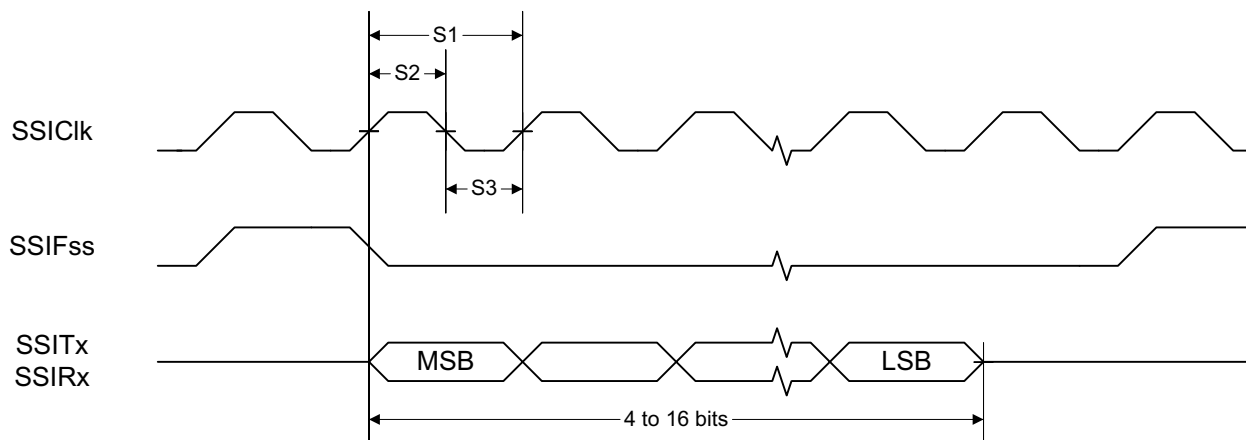
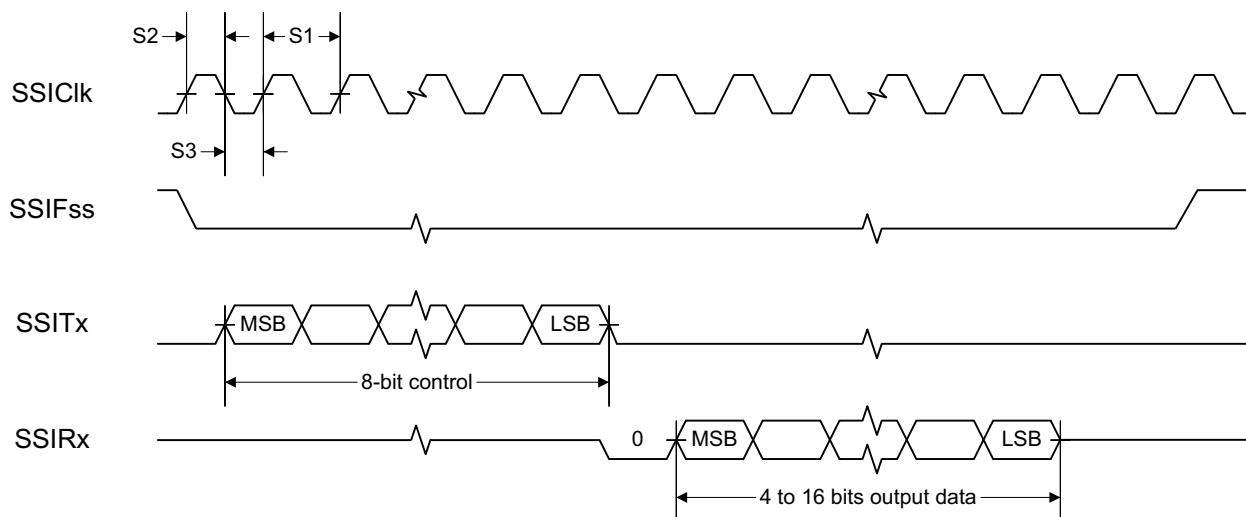
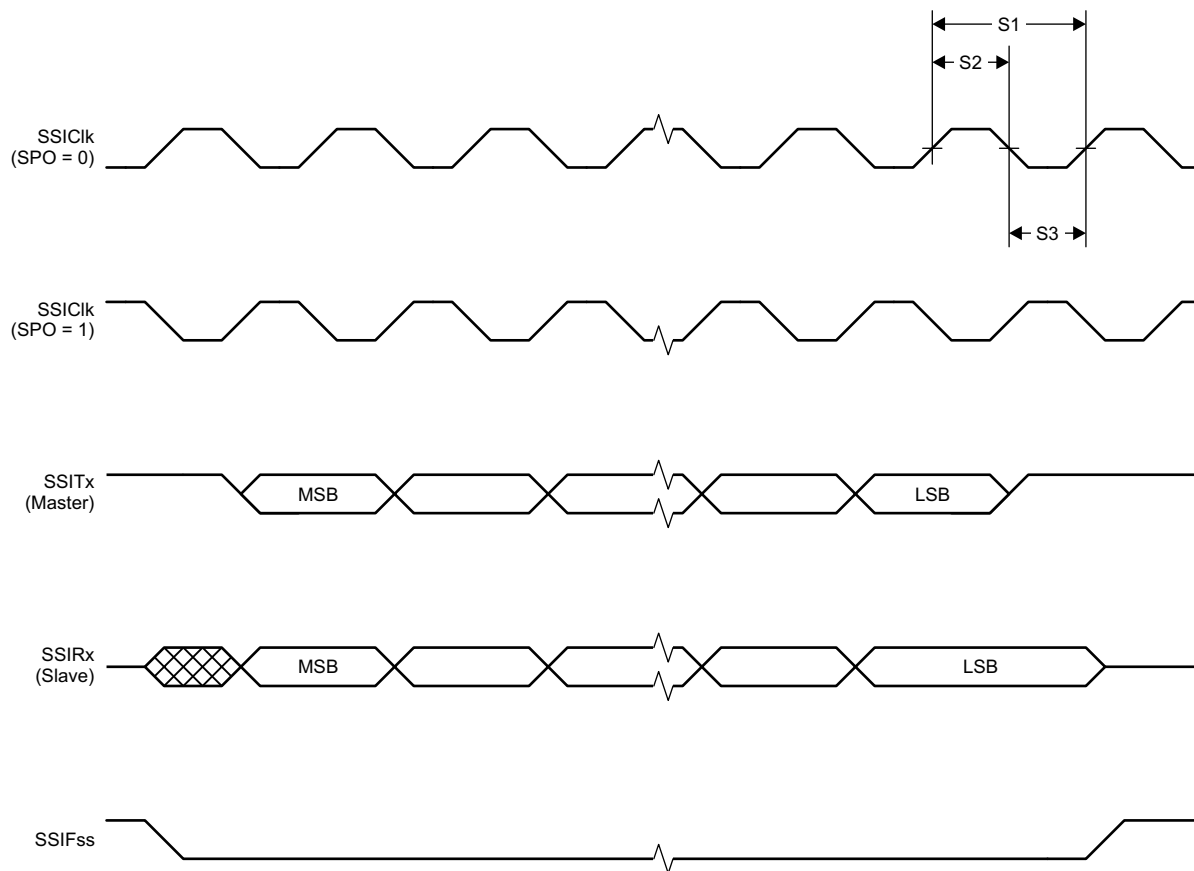

Figure 5-2. SSI Timing for TI Frame Format (FRF = 01), Single Transfer Timing Measurement
Figure 5-3. SSI Timing for MICROWIRE Frame Format (FRF = 10), Single Transfer
Figure 5-4. SSI Timing for SPI Frame Format (FRF = 00), With SPH = 1
(1) When using the TI-provided Power driver, the SSI system clock is always 48 MHz.
(2) Refer to SSI timing diagrams Figure 5-2, Figure 5-3, and Figure 5-4.